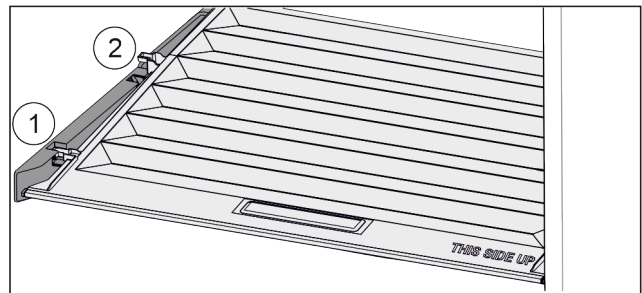

Fig. 131
- ▶ Pull the lid up at the front to the opening in the retaining parts Fig. 131 (1).
- ▶ Lift from the back and pull it up and out Fig. 131 (2).